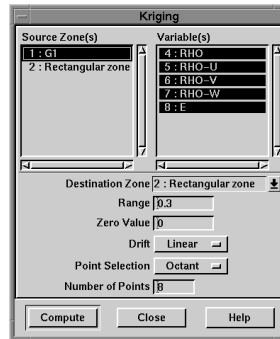

Figure 24-23. The Kriging dialog in Motif.
- From the Data menu, choose Interpolate, then choose Kriging. The Kriging dialog appears, as shown in Figure 24-23